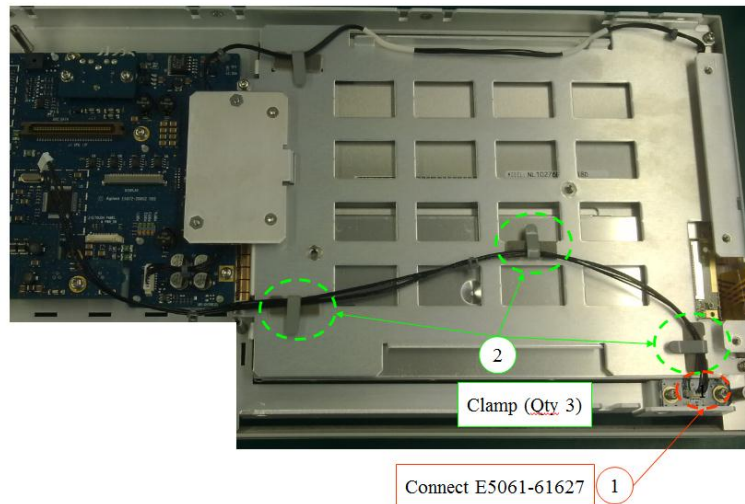

Figure 1-8
7. Connect, route and clamp the power switch cable assembly as shown in figure 1-8